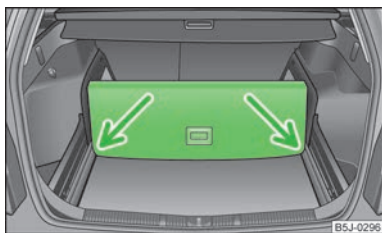

Fig. 50
- › Lift up the part with the holder and secure it by sliding it into the grooves marked with the arrows » Fig. 50.